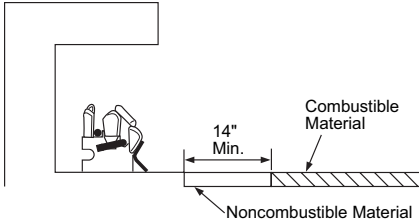

Figure 7 - Minimum Fireplace Clearances If Installed at Floor Level
- If installing appliance on floor level, you must maintain the minimum distance of 14" to combustibles (see Figure 7).